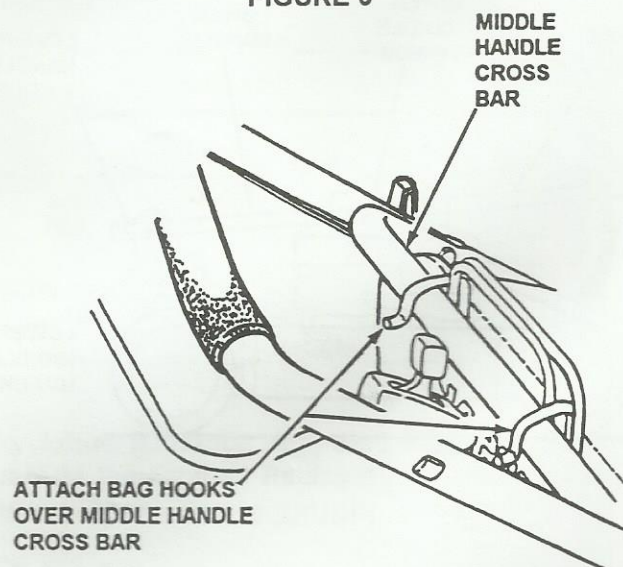

FIGURE 7
STEP 6: Install grass catcher by sliding connector over flange of adapter. See Figure 6. Attach grass bag hooks over middle handle cross bar. See Figure 7.